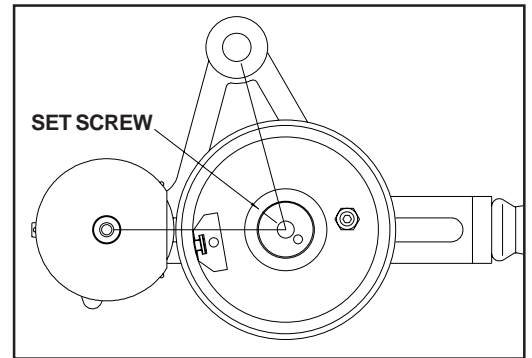

FIGURE 41
- 4- If the Brass Tip Set Screw is not pointing in the direction shown in Figure 41, rotate the Index Ring in a Counter-Clockwise Direction until it points in the direction shown.